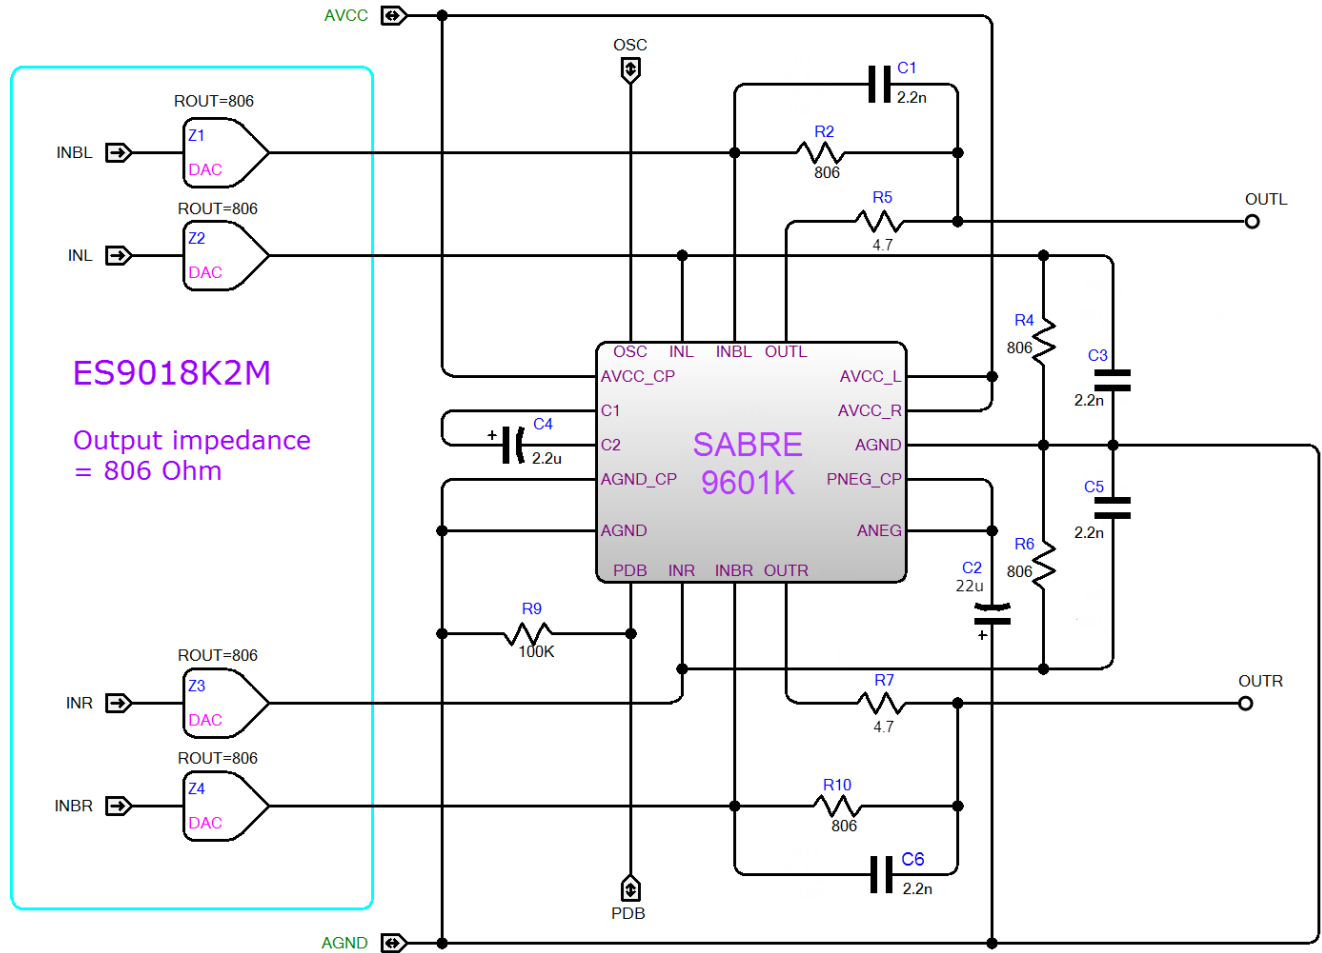

Figure 2. Schematic used to connect the ES9018K2M Dual SABRE DAC to the SABRE9601K Headphone Driver.
1. NC Pin 10 (formerly named INSR) and NC Pin 16 (formerly named INSL) retain the functions of INSR and INSL used in the application circuit in datasheets up to revision 1.2. However, for new designs we recommend using the revised application circuit of Figure 2 which minimizes the output offset voltage. All SABRE9601K devices will work in both new and old circuit designs.
### Flying Capacitor (C4, see Figure 2)
The value of the flying capacitor (C4) affects the charge pump's load regulation and output resistance. A C4 value that is too small degrades the device's ability to provide sufficient current drive, which leads to a loss of output voltage. Increasing the value of C4 improves load regulation and reduces the charge-pump output resistance to an extent. With a 2.2μF flying capacitor, the on-resistance of the switches dominates. Use a low-ESR ceramic or electrolytic capacitor for C4. If an electrolytic capacitor is used the correct polarity must be observed, see Figure 2. The flying capacitor C4 can be eliminated when an external –3.3V supply is used and the internal oscillator is disabled by grounding the OSC pin.
### Hold Capacitor (C2, see Figure 2)
The hold capacitor value and ESR directly affect the ripple at PNEG\_CP. Use a low-ESR 22μF minimum capacitor for C2 and also choose the correct voltage rating. C2 can be a ceramic or electrolytic capacitor, if an electrolytic capacitor is used, the correct polarity must be observed, see Figure 2. Increasing the value of the hold capacitor will improve regulation but increases start-up time.
### Compensation Components (see Figure 2)
### Short-Circuit Protection (see Figure 2)
$T_A = 25^\circ\text{C}$ , AVCC\_CP = AVCC\_L = AVCC\_R = +3.3V, 1kHz signal, C2 = 22 $\mu\text{F}$ , C4 = 2.2 $\mu\text{F}$ , ANEG = PNEG (Figure 2 configuration)